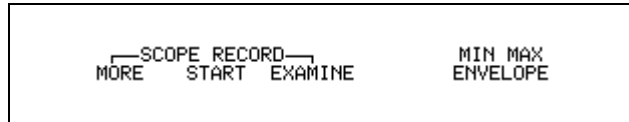

Figure 5-16. Recording Menu
In SCOPE mode, press  to access the waveform recording functions (see Figure 5.16). You can use these functions to examine waveform changes over time.
- From the Min Max Record menu press (EXAMINE). See Figure 5-16.